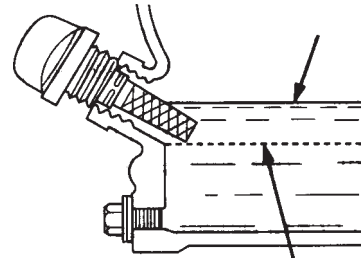

Figure 11. Engine Oil Dipstick (Oil Level)
4. If the oil level is low (Figure 11), fill to the edge of the oil filler hole with the recommended oil type (Table 7). Maximum oil capacity is 2.33 pints (1.09 liters)